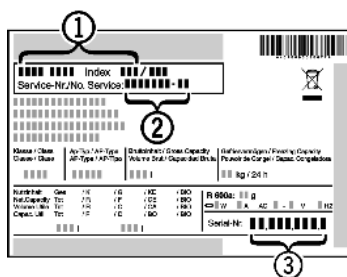

Fig. 31
- ▶ Read off the appliance name Fig. 31 (1), service no. Fig. 31 (2) and serial no. Fig. 31 (3) from the model plate. The model plate can be found on the inside of the appliance on the left.